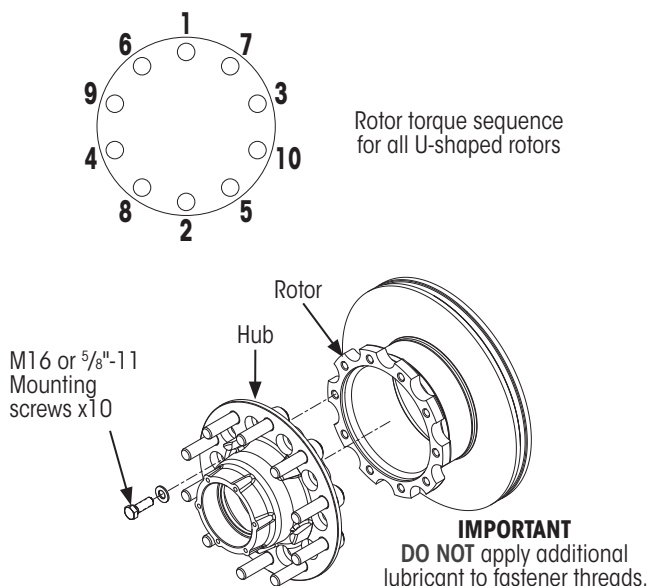

Figure 1: Flange mounted hub & U-shaped rotor assembly
6. Properly constrain assembly and tighten mounting screws, in the sequence shown in Figure 1, to  $220 \pm 10$  ft. lbs. ( $300 \pm 10$  Nm) of torque.